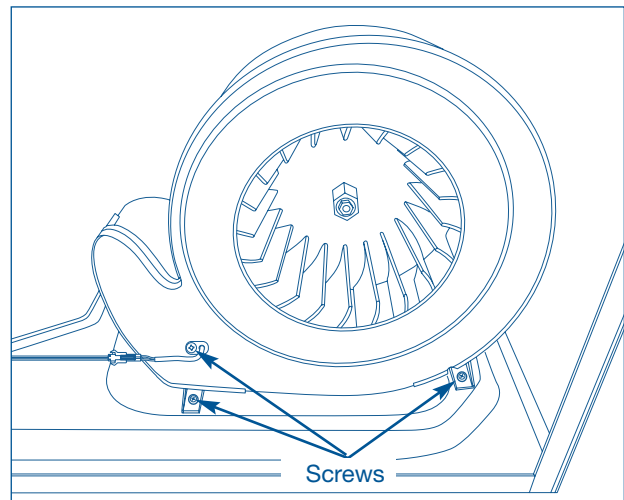

Figure 4-39.
5. Extract the two screws securing the blower assembly to the unit base. (See Figure 4-39)